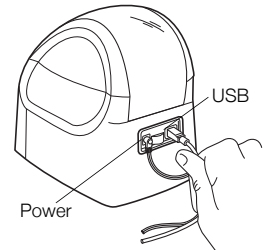

Figure 4
- 2 Plug the power adapter into the power connector on the back of the printer. See Figure 4.